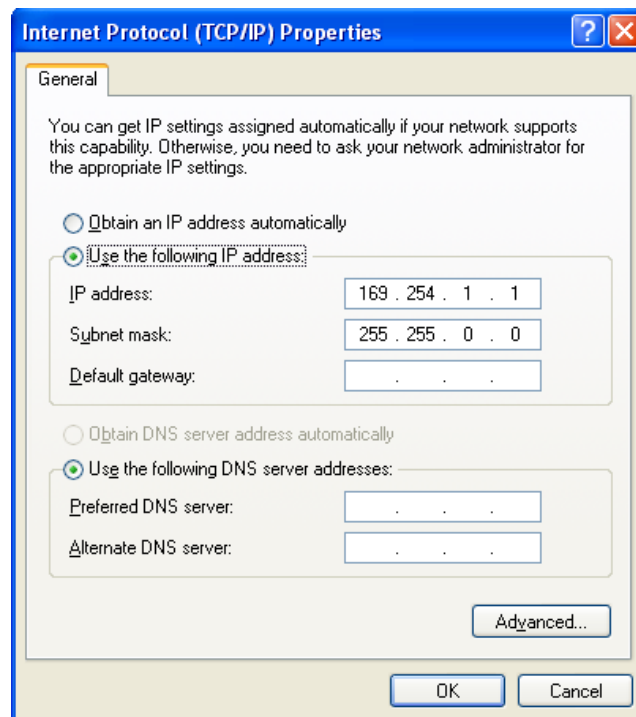

Figure 6. Network card TCP/IP address.
- Select the **Internet Protocol (TCP/IP)** check box and then select **Properties**. See Figure 6. Network card TCP/IP address.. Select the **Use the following IP address** and enter an IP address of **169. 254. x. y**, where **x** and **y** can be any number. Press the TAB key after entering the IP address and the subnet mask will automatically be entered. The subnet mask is **255. 255. 0. 0**. Click **OK** to save changes. Note that if Windows reports a conflict with the above IP address, simply repeat the above steps and change the last digit of the IP address to a different value.